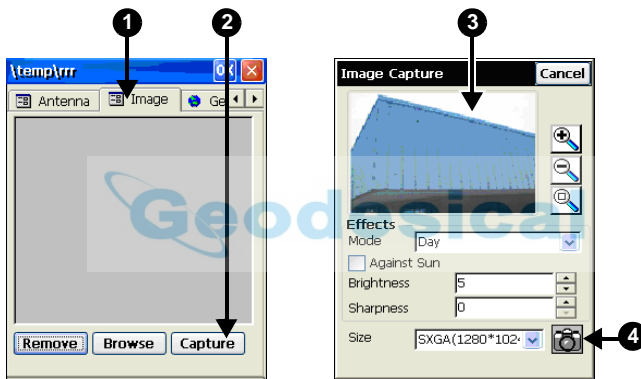

Figure 2-31. Capturing an Image
1. To take an image, double-tap on the main screen, then tap the *Image* tab (Figure 2-31 on page 2-26).